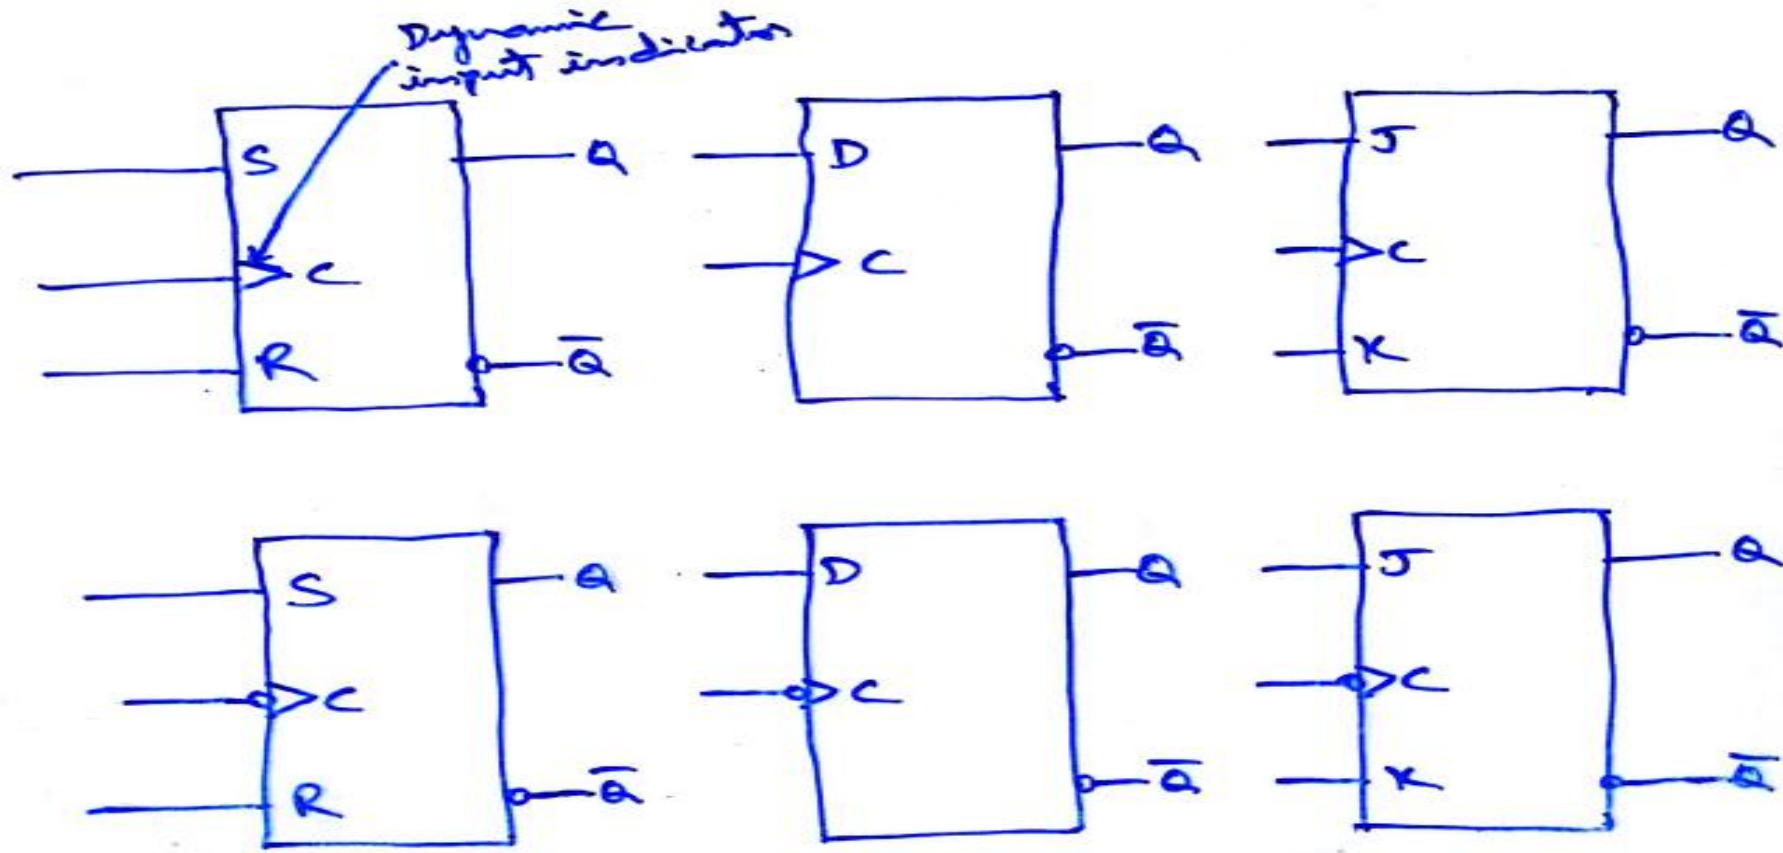

Fig 7-13 (a) S-R
- Three types of edge-triggered Flip-flops are shown in the figure 7.13.